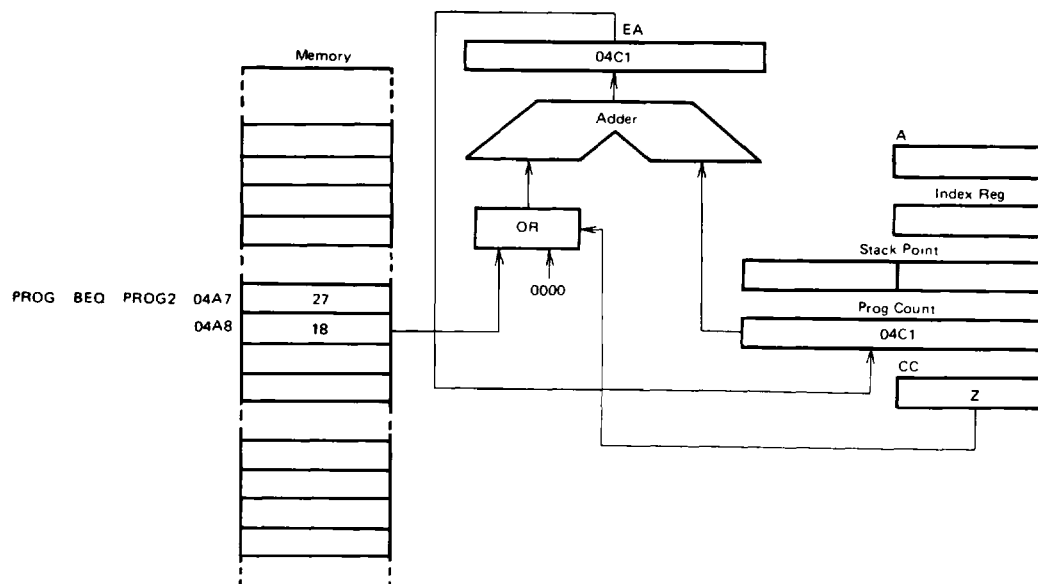

Figure 20 Relative Addressing Example
Refer to Figure 20. The relative addressing mode applies only to the branch instructions. In this mode the contents of the byte following the opcode is added to the program counter when the branch is taken.  $EA = (PC) + 2 + Rel$ . Rel is the contents of the location following the instruction opcode with bit 7 being the sign bit. If the branch is not taken Rel=0, when a branch takes place, the program goes to somewhere within the range of +129 bytes to -127 of the present instruction. These instructions are two bytes long.